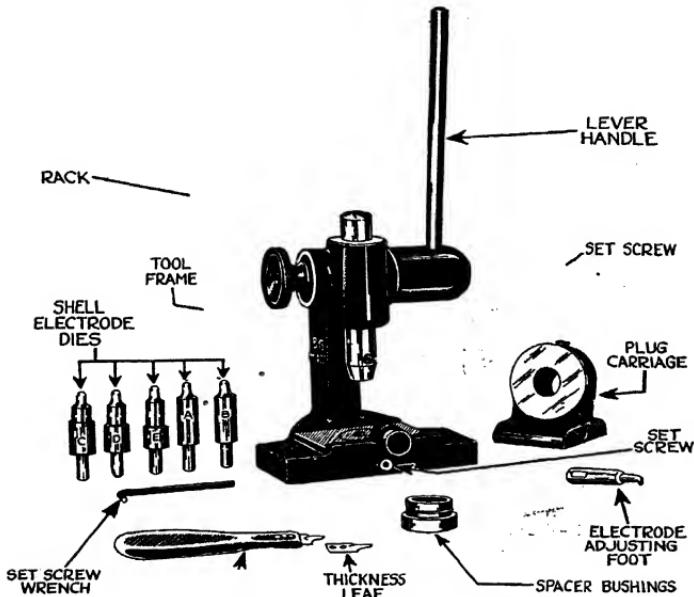

FIG. 11.—Tool for forming and adjusting electrode.
The forming and adjusting tool (Fig. 11) makes it possible to form and adjust electrodes with factory precision.
**Electrode Clearance Adjustment.**—The electrode forming and adjusting tool is used for adjusting B G spark electrode clearances. It may be operated with either right or left hand. As illustrated in Fig. 11, it is set up for right-hand operation. For left-hand operation, it is necessary only to reverse the position of the electrode adjusting foot, plug carriage, and lever handle assembly.